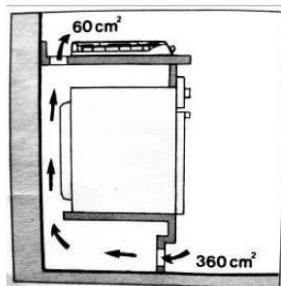
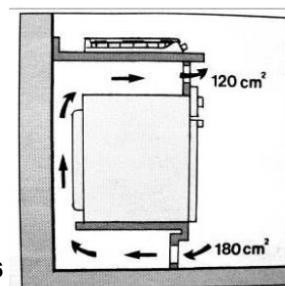

Fig. 5
Fig. 6
- i)** In the case of installing an oven to fit under the gas plate, it is recommended to improve the ventilation around the oven, to avoid excessive heating, place a grid for the air intake from the bottom of the oven and another grid in the oven. upper part of the hob (Fig. 5) or in the front-upper part of the oven (Fig. 6).